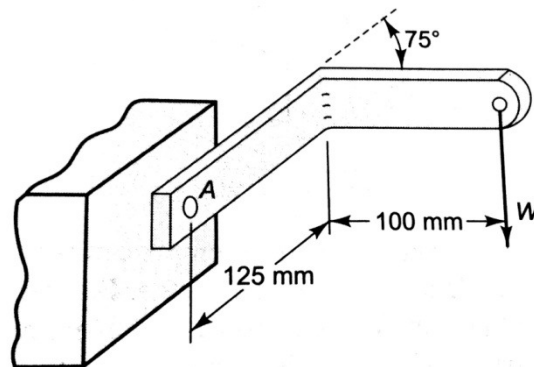

Figure 6
6. A spot weld which holds the bracket to the plate at joint A as shown in figure 6, can withstand a maximum twist in the plane of the plate of 100 Nm. Determine the maximum load W.